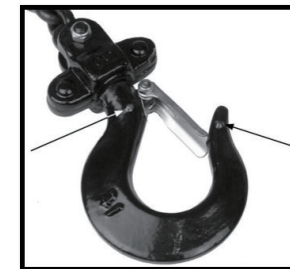

FIG 1
- The top and bottom hooks on your Sumner chain hoist are designed to open to warn of an overload. Both top and bottom hooks (1T to 5T models) have indicator points cast into the hook per FIG 1. The measurement between indicator points must fall below the limit shown in FIG 16. If it exceeds the limit, the hook must be replaced. Hooks for 15 and 20-Ton hoists do not have indicator points. Measurements are made at the jaw opening.